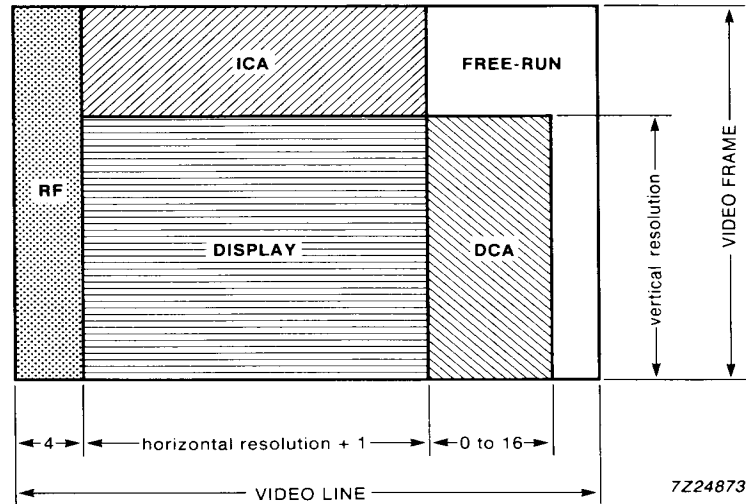

Fig.5 DRAM Timing Windows.
Fig.5 shows the number of timing windows related to the time domain of a video frame, the following should be noted:
**Notes to Fig.5.**